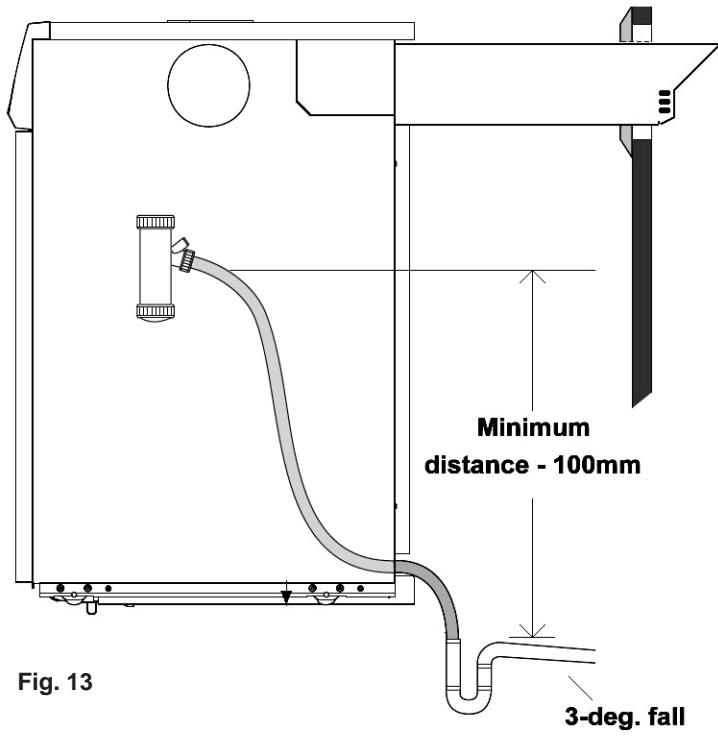

Fig. 13
5.3.14 Condensate collection (see fig. 13)